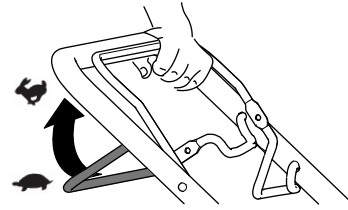

Figure 14
- **To engage the self-propel drive:** Squeeze the self-propel-drive bar against the handle and hold it (Figure 14).